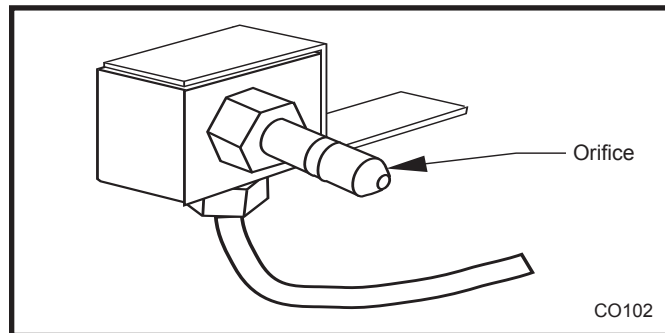

Fig. 3 Replace orifice.
4. Use 7/16" wrench to remove orifice. (Fig. 3) Install desired orifice in place of orifice just removed. See Table 3 . Use approved pipe compound for pipe threads.